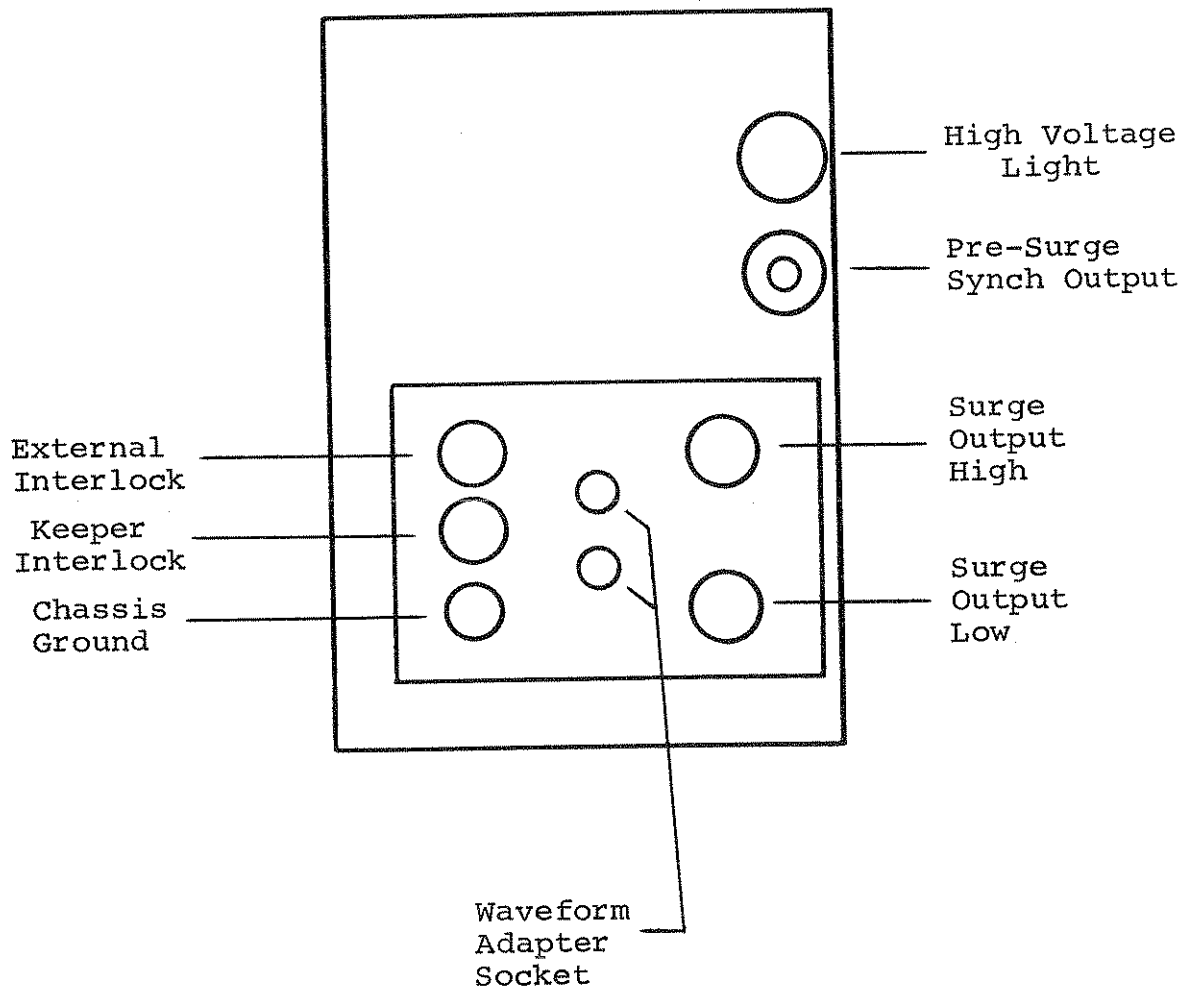

Fig. 3-2
2. P3: For optimum waveform, operate with the Front Output Adapter jumper in place when using the Model 711 without the Model F31. With the Model F31, operate without the P3 Front Output Adapter jumper. (See Fig. 3-2.)
3. P7: Same as item (2) above for the P3.